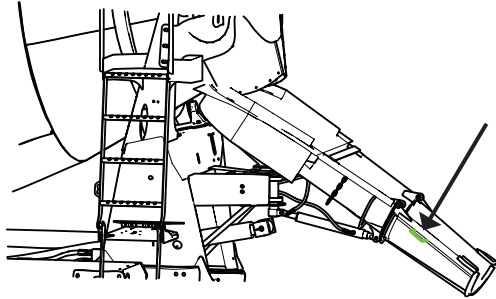

Figure 131
3. Slowly lower the chute into operation position (Figure 131).
1. Grip the fold-over chute using the correct hand-holds (Figure 131).